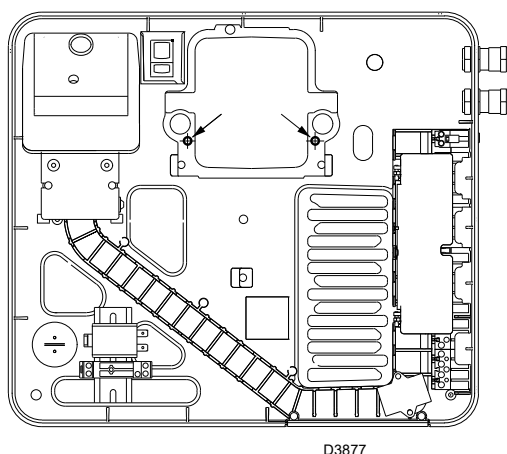

Fig. 36
Finally, you can use 2 of the 3 screws (5) to fix the electrical switchboard to the pipe coupling, in the points indicated in Fig. 36, and then carry out the maintenance operations.